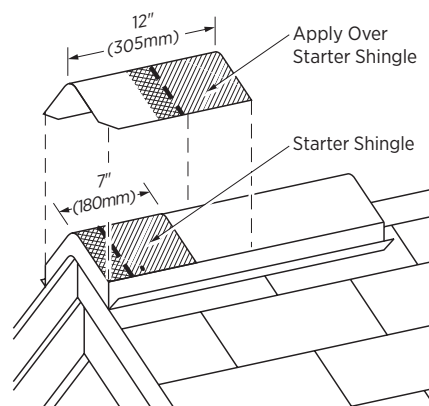

Figure PAT-13: Apply a full cap shingle over the starter piece, flush with the bottom and side edges of the starter.
3. Apply a full cap shingle over the starter (Figure PAT-13), and place fasteners at 5-5/8" (6-1/4" for metric) up from the exposed bottom edge and 1" in from each side. Nails must not be exposed on the finished roof. All nail heads must be driven straight and must not cut into the shingle surface.